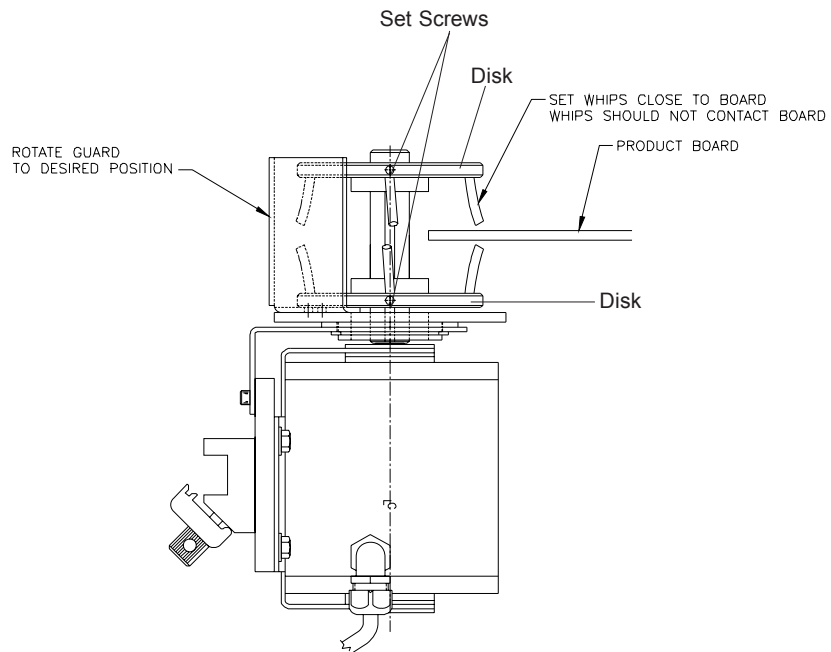

Figure 5-1. Adjustment of the Whips
1. Disconnect the power to the TR500M. Then, loosen the set screws on the discs (Figure 5-1).